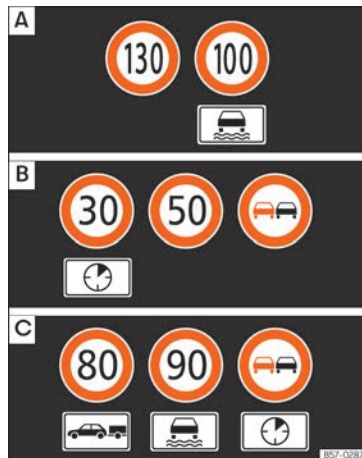

Fig. 61 On the instrument panel display: examples of speed limits or overtaking prohibitions with their respective additional signs.
The traffic signs detected by the system are displayed on the dash panel display »» Fig. 61 and, depending on the navigation system fitted in the vehicle, on the infotainment system as well »» page 82.
signs in front of the vehicle. After checking and evaluating the information from the camera, the navigation system and the current vehicle data, up to three valid road signs are displayed, »» Fig. 61  with their additional signs.
- **First:** The sign that is currently valid for the driver is shown in the left side of the screen. For example, a maximum speed limit of **130 km/h (100 mph)** »» Fig. 61 .
- **Third:** A sign valid only with restrictions, e.g. No overtaking at certain times, will be displayed in third place »» Fig. 61 .